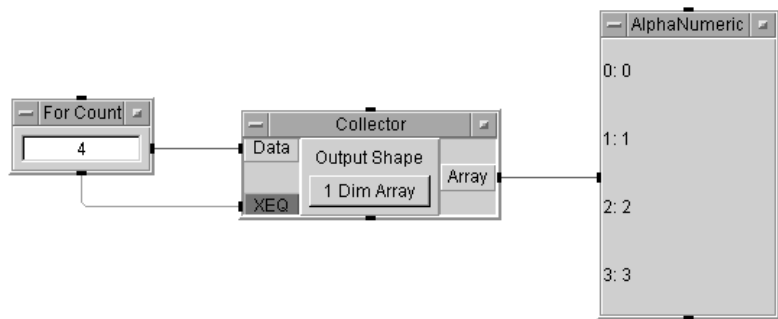

Figure 126 The Collector Creating an Array
- 7 Run the program. It should look like Figure 126.